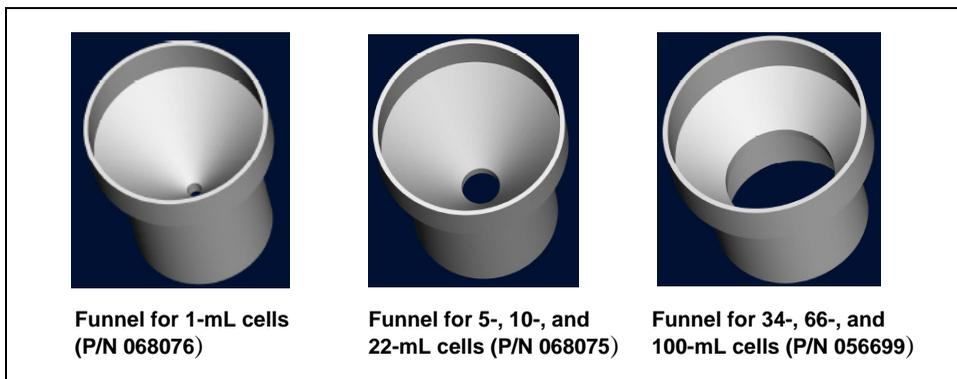

Figure 3-6. Sample Funnels
1. Use the funnel provided in the Dionex ASE 150 Startup Kit to carefully load the sample into the top of the sample cell. To accommodate sample cells of different sizes, three funnels (with different inner diameters) are available (see Figure 3-6).